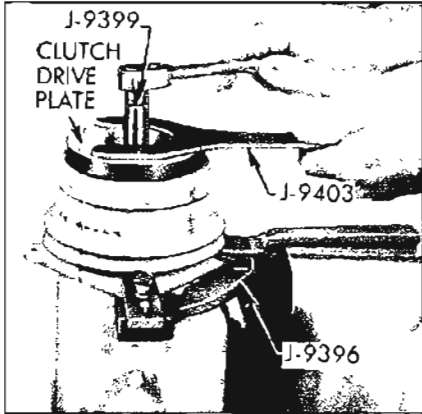

Figure 11-50—Removing or Installing Shaft Nut
1. Firmly clamp Holding Fixture (J-9396) in a vise and attach compressor assembly to fixture (see Figure 11-50).